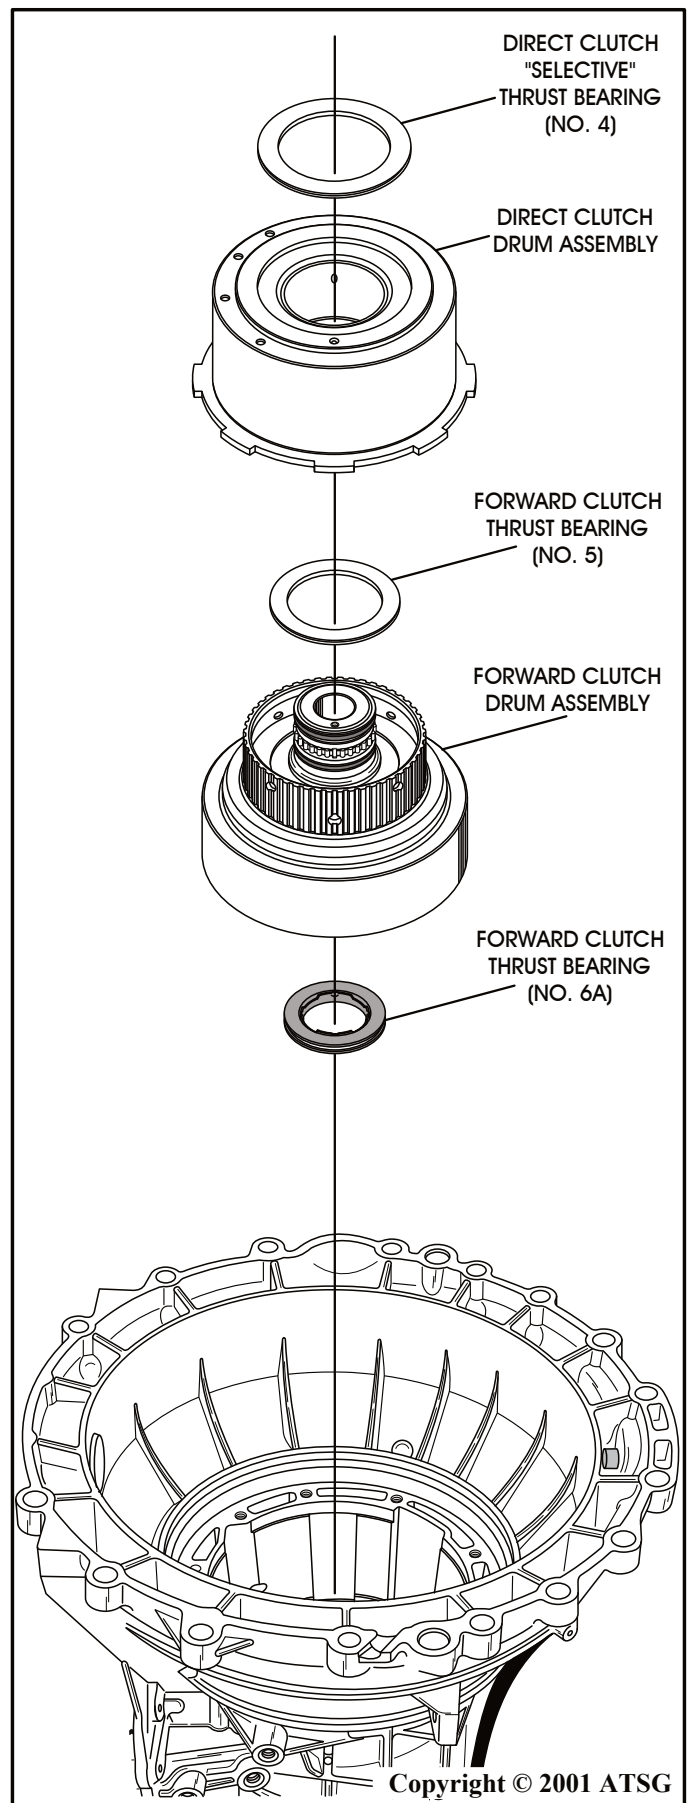

Figure 46
47. Remove and tag for I.D. direct clutch (No. 4) *selective* thrust bearing, as shown in Figure 46.
48. Remove the direct clutch housing assembly and set aside for component rebuild, as shown in Figure 46.
49. Remove and tag for I.D. forward clutch (No. 5) thrust bearing, as shown in Figure 46.
50. Remove the forward clutch housing assembly and set aside for component rebuild, as shown Figure 46.
51. Remove and tag for I.D. the forward clutch (No. 6A) thrust bearing (See Figure 46).